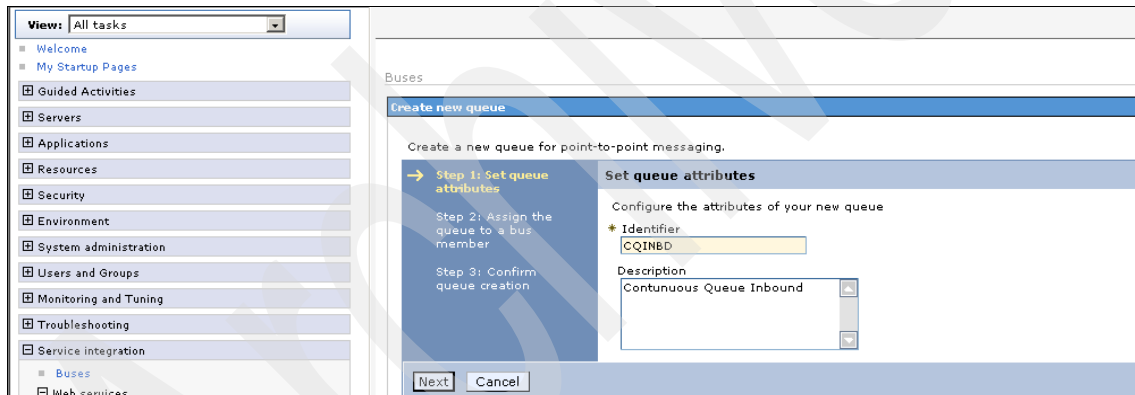

Figure A-33 Continuous Queue Inbound
3. Enter **CQINBD** in the Identifier field and Continuous Queue Inbound in the Description field, then click **Next** to open the Create a new queue for point-to-point messaging dialog box (see Figure A-33). Note that you must use the CQINBD value, and it must contain only uppercase letters.